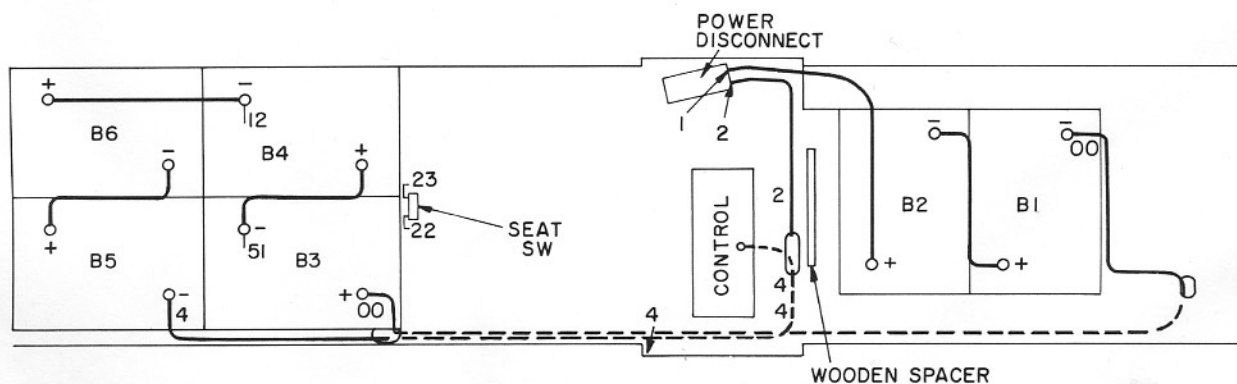

Figure 1
4. Carefully set the batteries in the bag as shown in Figure 1 so that the sides of the bag remain above the top battery surface in equal amounts.
6. Connect the battery cables in accordance with Figure 1. Coat the terminals after connections are made with a thin coat of grease. Make sure that all surfaces are coated.
5. Carefully set the batteries in the bag as shown in Figure 1 so that the sides of the bag remain above the top battery surface in equal amounts and all wires are accessible.
6. Connect the battery cables and wires in accordance with Figure 1. Coat the terminals after the connections are made with a thin coat of grease. Make sure that all surfaces are coated.